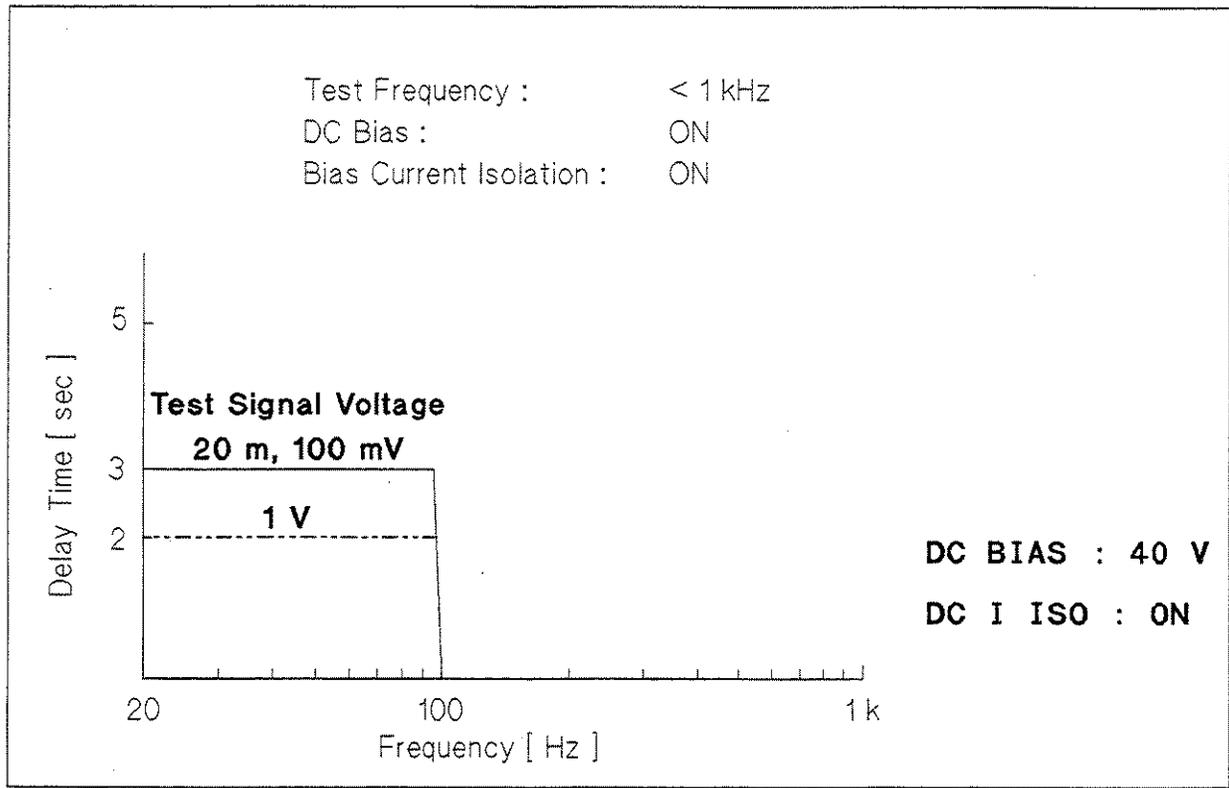

Figure G-3. Required Delay Times After Changing the Measurement Range (3)
3. After changing the measurement range under the following conditions, use the appropriate delay times as shown in Figure G-3.